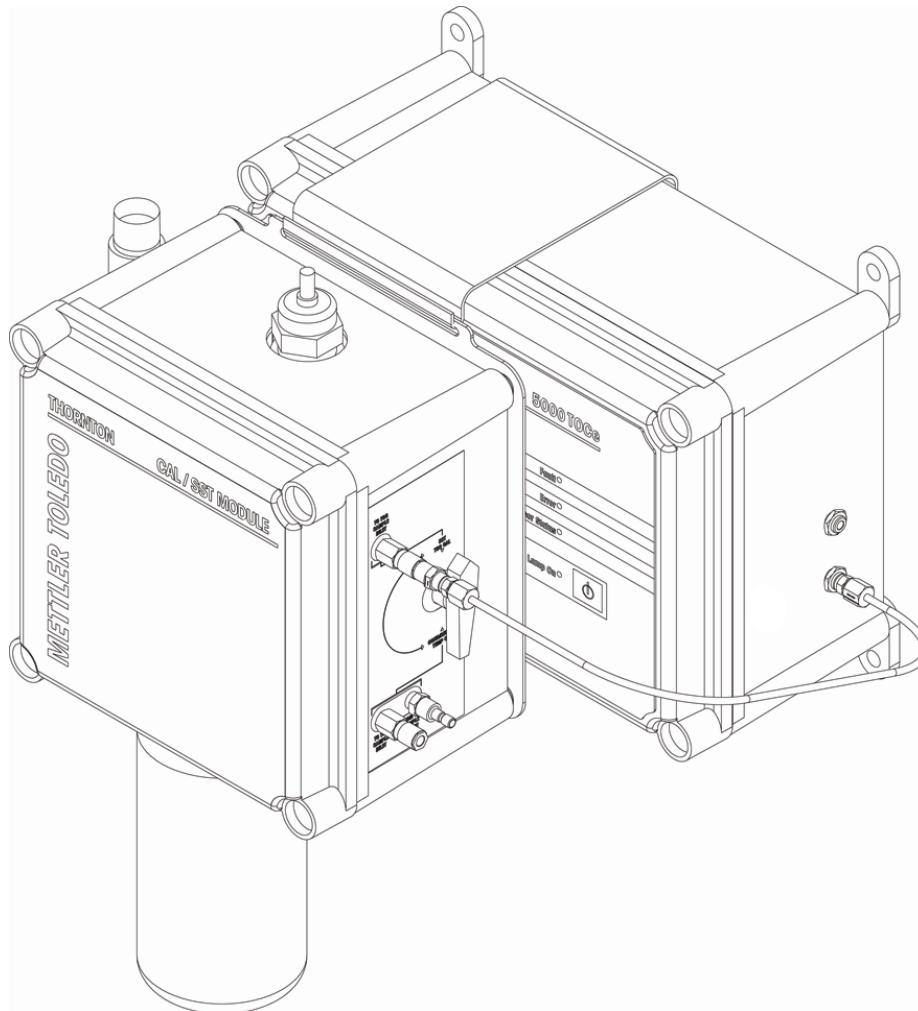

Figure 1. CAL/SST Pump Module Installation and Setup
1. Remove the mounting bracket from the carrying case and place on top of the 5000TOCi Sensor to be tested. See Figure 1.
5. Set selector valve on CAL/SST pump module to "SST/TOC CAL" position. Figure 1 shows the proper installation of the CAL/SST pump module.